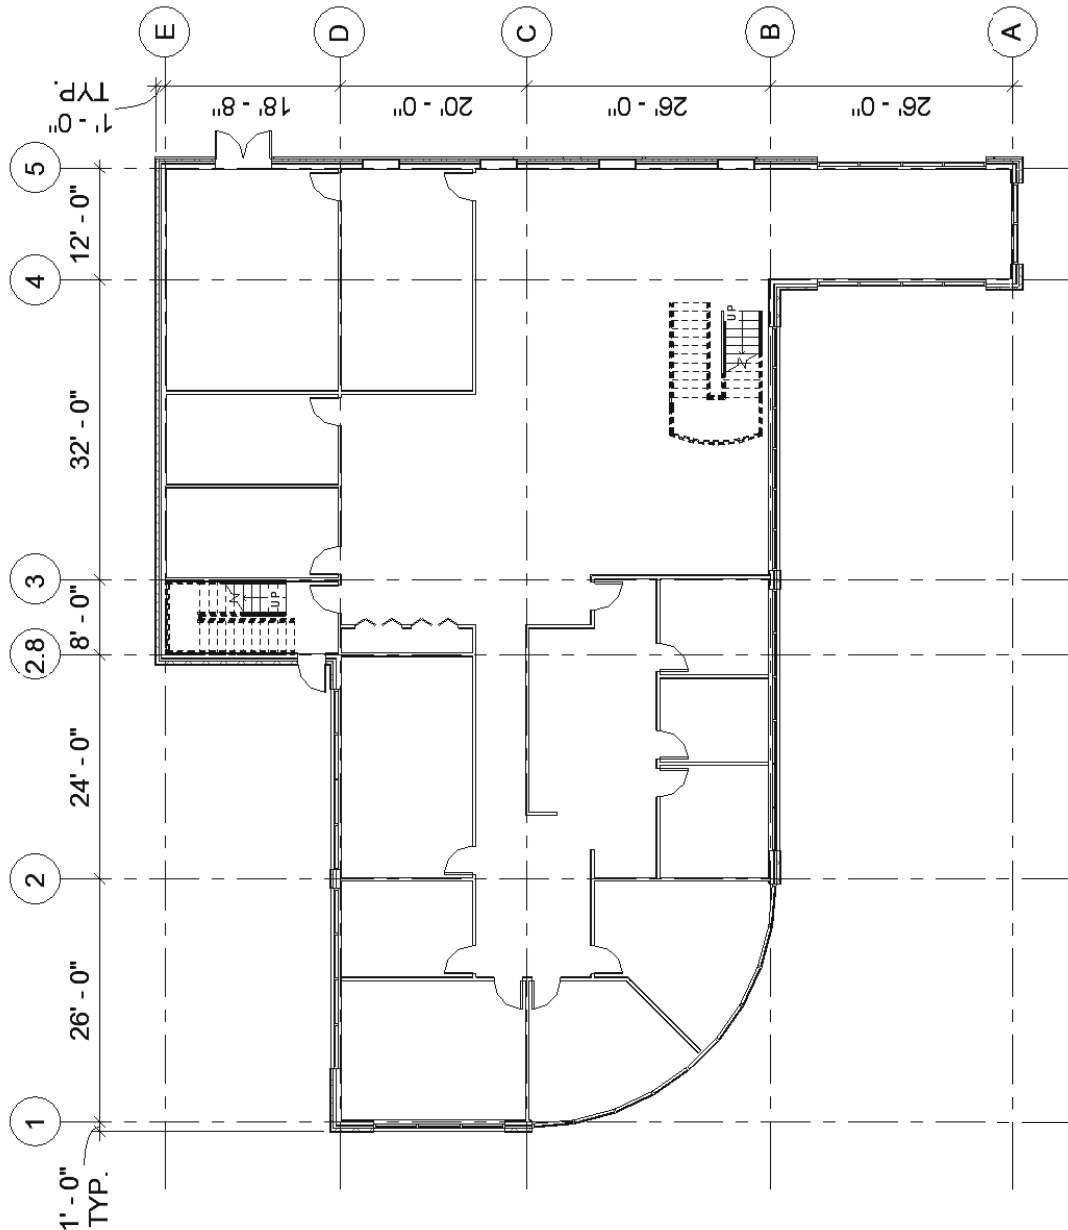

FIGURE 8-3.3
4. Layout the grid as shown in Figure 8-3.3.
- b. Use this as an opportunity to double-check the overall dimensions of your building. Many of the grids can be laid out based on the 1'-0" distance from the exterior face of the exterior wall rule we have established. Additionally, Figure 8-3.3 shows dimensions between each grid; this can be used to locate the remaining grids and verify dimensions.
***FYI:** In the image below (Figure 8-3.3), you can see two dimensions with the word “TYP.” below them. First off, this is an abbreviation which should only be used if it has been defined in an abbreviation list somewhere in the set of documents. This abbreviation means “TYPICAL,” and when used like this, lets the contractor know that any grid line near an exterior wall should be this same dimension (1'-0" in this case).*